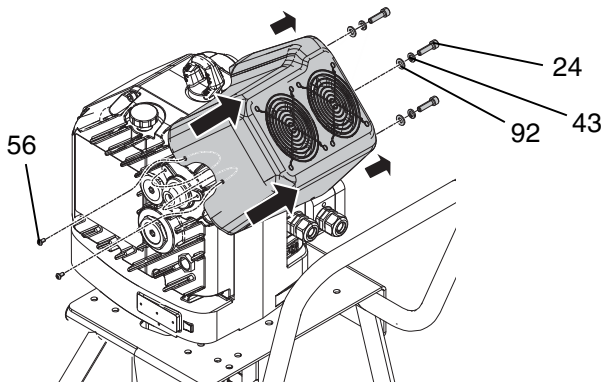

FIG. 14: Fan Assembly Removal
- Install new fan assembly. To reattach the fan assembly, slide cover into slots for tabs located on junction box side and gently push down far end (see FIG. 14 on page 15).